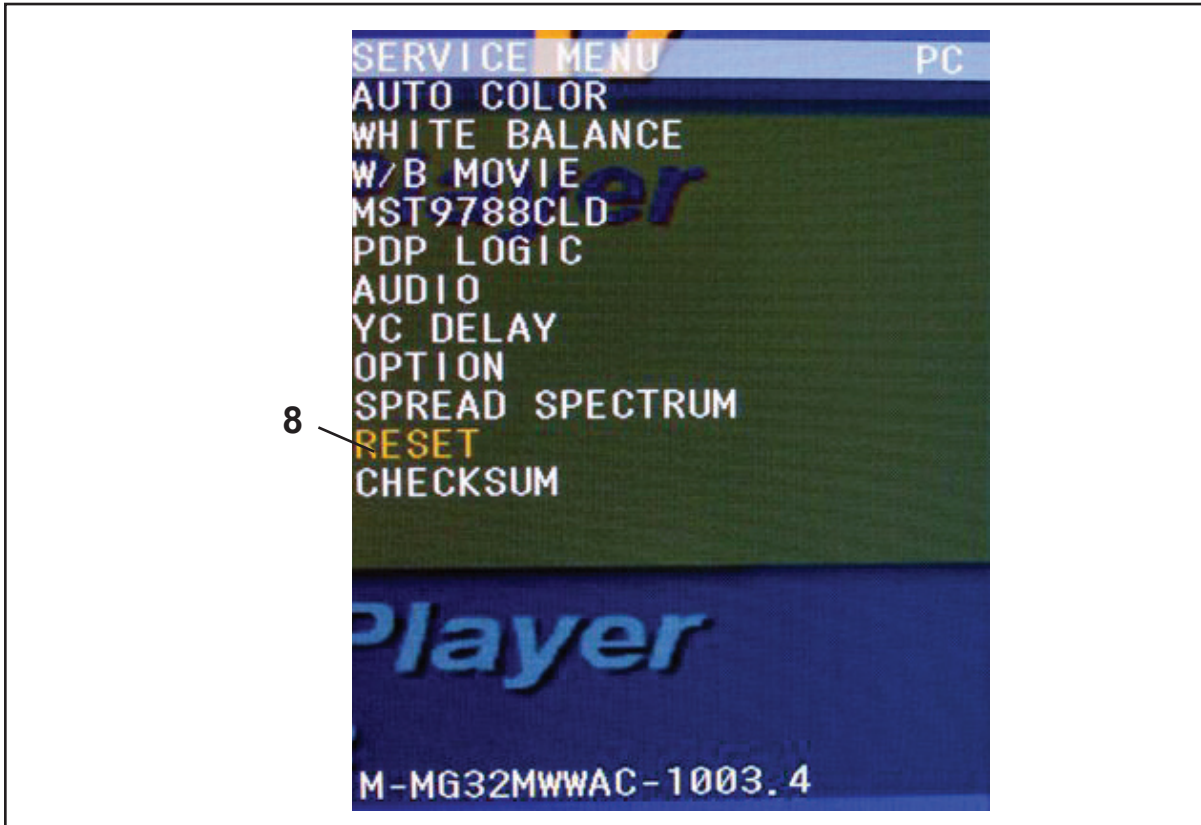

Figure 23. Reset Menu
7. After the LED turns on, a menu appears on the screen. Refer to *Figure 23*.